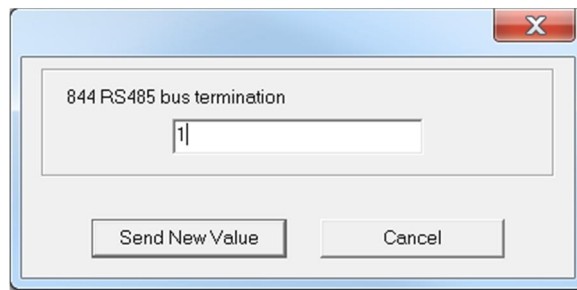

Figure 44: Configure the LevelMaster to terminate the RS-485 bus
6. When the edit box displays (Figure 44), if the value is 0, change the value to 1. The value of 1 configures the unit as the only or last sensor on the RS-485 bus.